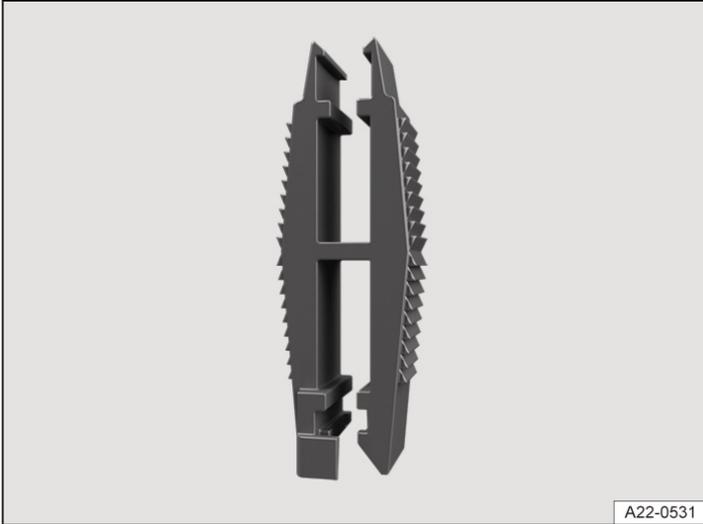

Fig. 2 Plastic grippers for pulling out and inserting a fuse (illustration).
1. If applicable, take the plastic grippers out of the fuse box or the cover of the respective fuse box → Fig. 2.